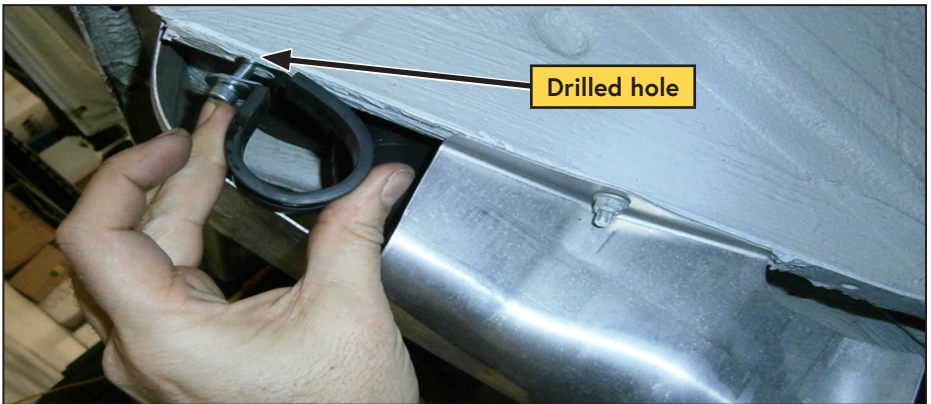

Figure 44 — Install P-clip
- Drill a 1/4 in hole in the rear lip of the fuel filler bodywork in the location shown (Figure 44).